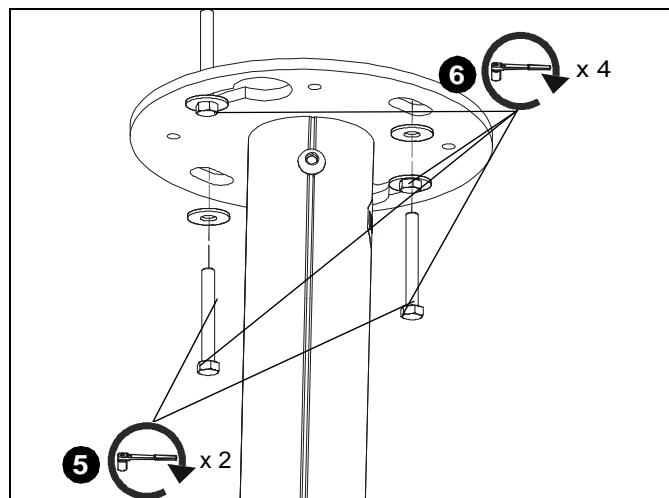

Figure 6
5. Install two 5/16" x 2-3/4" (minimum) lag screws (not included) through holes on ceiling plate (A) and into holes drilled in wood stud cross bracing. (See Figure 6)
6. Tighten all four lag screws to secure plate to ceiling. (See Figure 6)